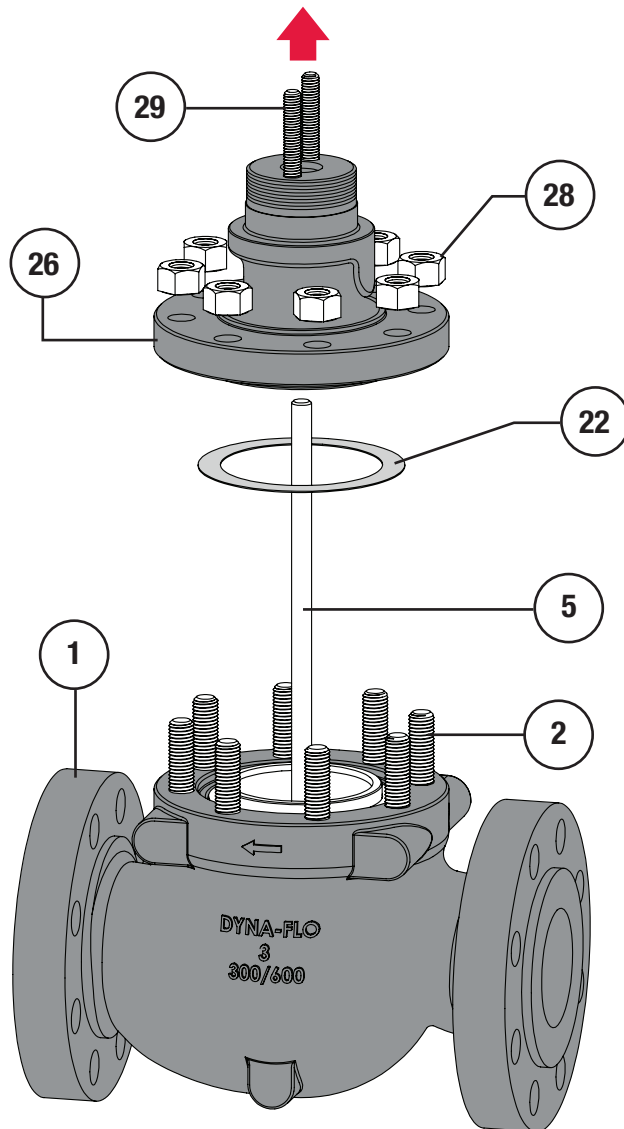

Figure 9 Bonnet Removal (Steps 3 - 5)
- 3 If no process fluid or gas escapes from the body-to-bonnet joint proceed by completely removing the bonnet nuts (Key 28). Refer to Figure 9.